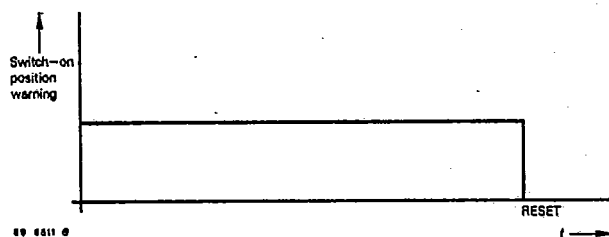

Fig. 9 Switch-on position warning
- a) Switch-on position warning follows by mains plug-in, in the positions 2, 3 and 4. The integrated circuit generates a continuous output signal till a motion or position change occurs (Fig. 9).